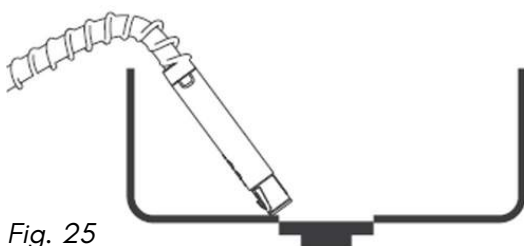

Fig. 25
2. Place the handle of the brush at a place where the water can be drained easily (drain tank) and then fix the handle of brush well in position (see Fig.25).